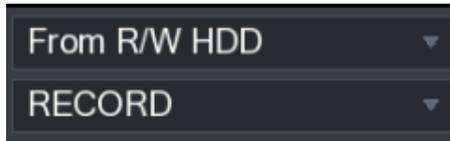

Figure 5-95
- **From R/W HDD:** Recorded videos or snapshots playback from HDD of the Device. See Figure 5-95.